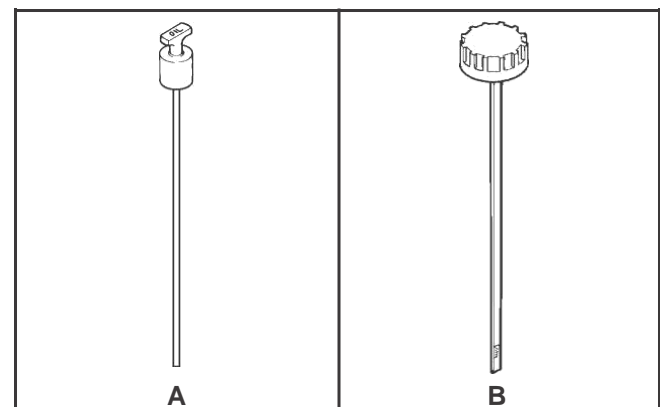

Figure 6-2. Checking Oil Level.
Reinsert the dipstick into the tube and press onto the tube See Figure 6-2 (A).
Reinsert the dipstick into the tube and rest the oil fill cap on the tube. Do not thread the cap onto the tube. See Figure 6-2 (B).